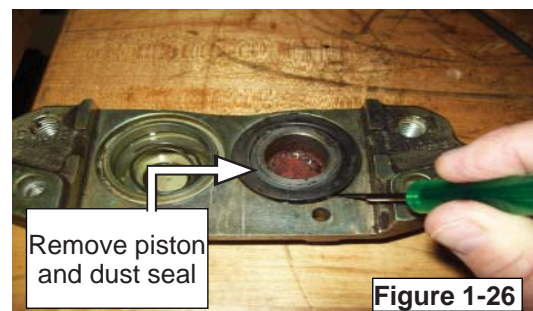

Figure 1-26
- Force pistons outward by applying compressed air to the port. Pry the seals from the caliper body using a small screwdriver. Remove the dust seals from the pistons using a small screwdriver or other suitable tool (FIGURE 1-26).